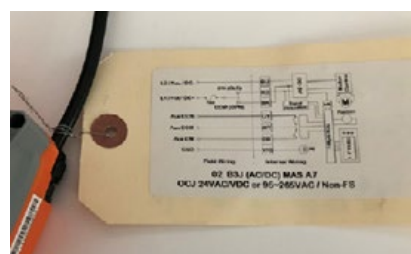

Fig. 1
9. Refer to the wiring diagram attached to the flying lead on the actuator (see Fig 1) for wiring connections. You can also scan the QR code above and navigate to the Max-Air website to obtain a full-size wiring diagram.